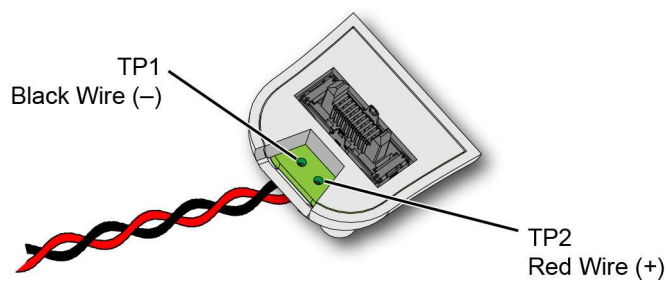

Figure 5 Lead Positions on PC Board
- 2 Flip the head as shown in Figure 5 and insert the leads up through the PC board's solder holes **TP1** and **TP2**. Insert the **RED** (+) lead at TP2 and the **BLACK** lead at TP1. Solder the leads in place.